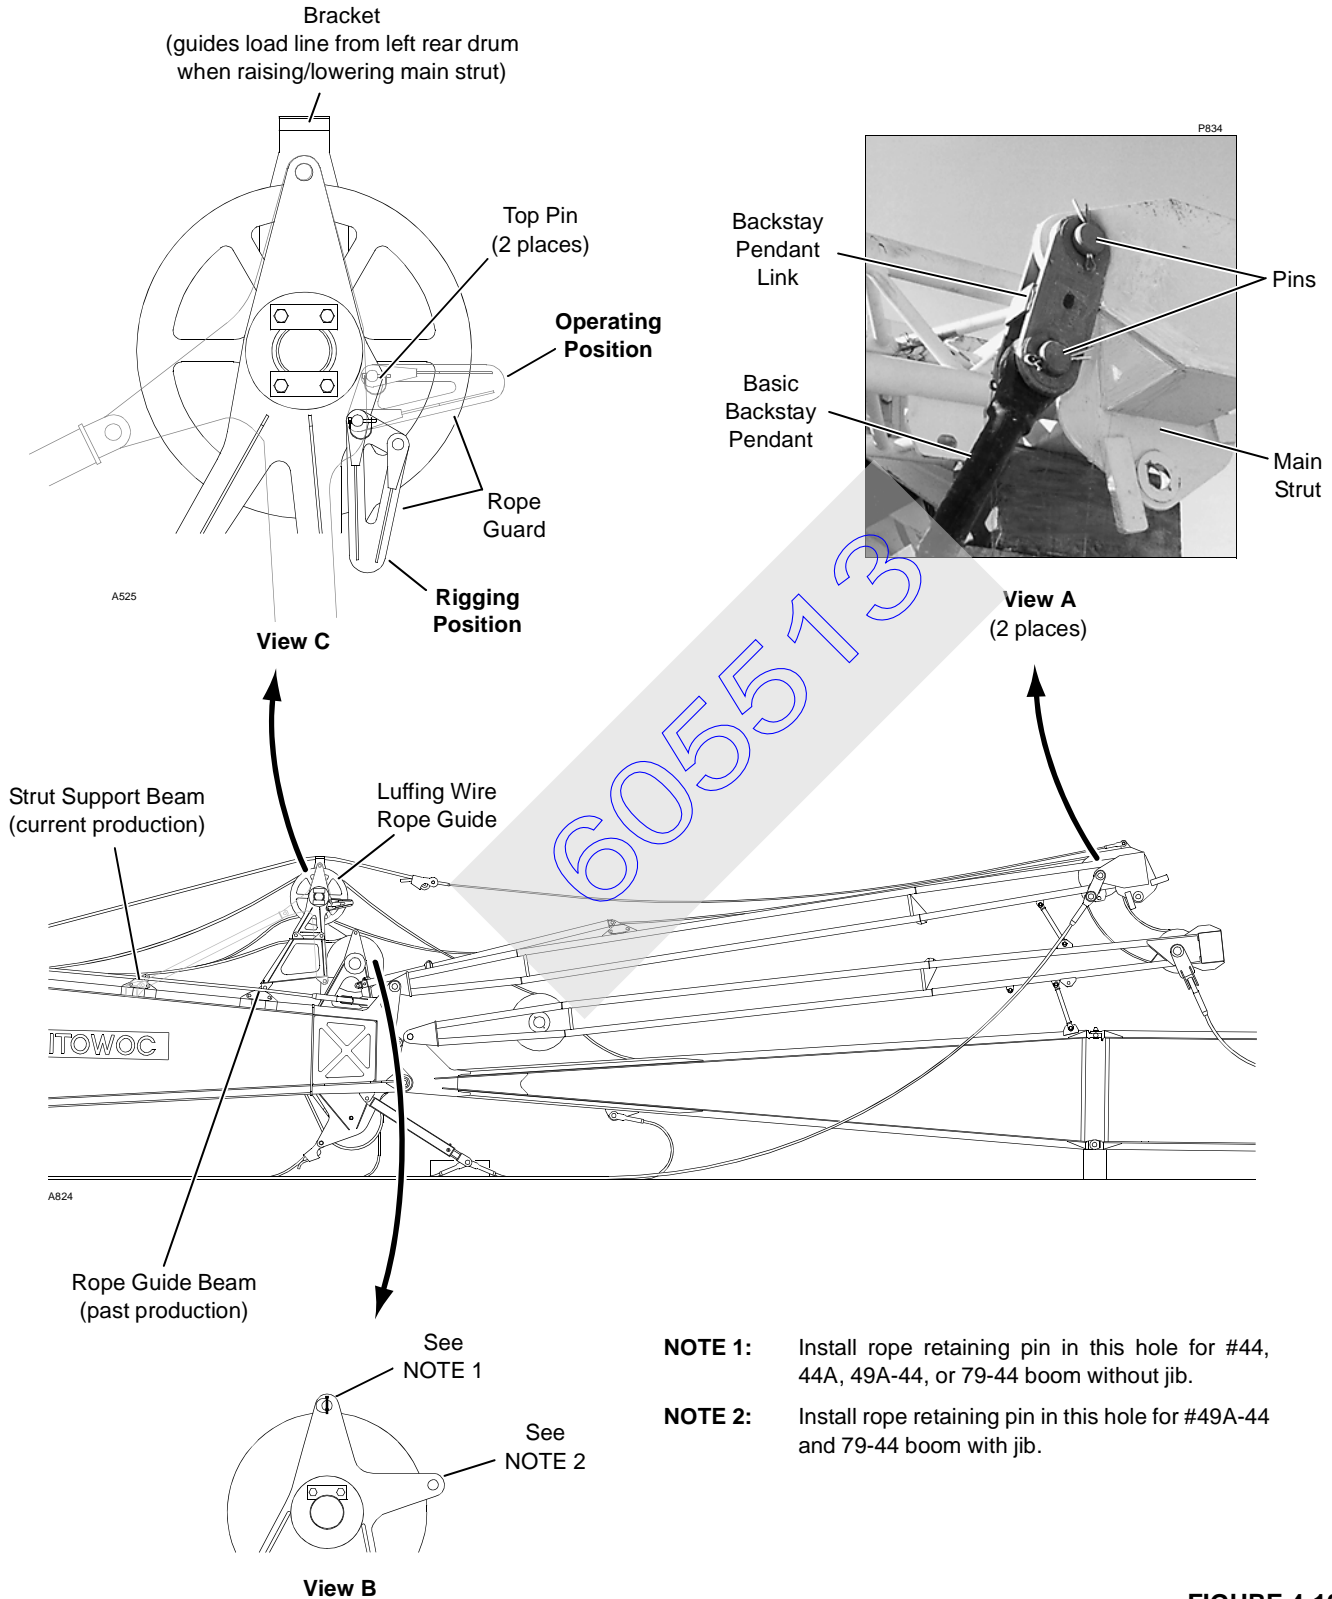

FIGURE 4-10
See Figure 4-10 for following procedure.
3. Remove top pin from both ends of rope guard and rotate rope guard to rigging position (Figure 4-10, View C).
1. Pin basic backstay pendants to pendant links on main strut (Figure 4-10, View A).
21. Rotate rope guard on luffing wire rope guide UP to operating position (Figure 4-10, View C). Install top pins to retain guard in this position.
4. For #49A-44 and 79-44 booms only, move rope retaining pin (Figure 4-10, View B) to front holes in wire rope guide.